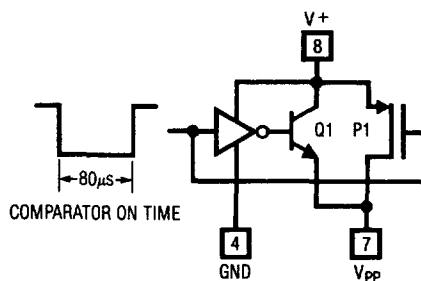

Figure 3. V_{PP} Output Switch
Figure 3 shows the V_{PP} output circuit. The V_{PP} output voltage is not precisely controlled when driving a load (see typical curve of V_{PP} output voltage versus load current). In spite of this, high precision can be achieved in two ways: (1) driving ratiometric networks and (2) driving fast settling references.